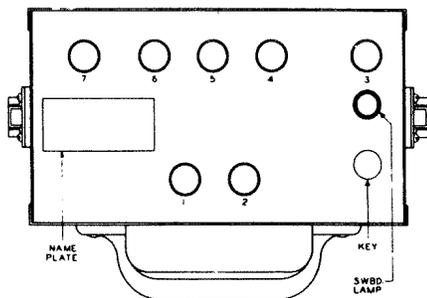

Fig. 1 - Face View of Set
1.06 The test set, illustrated in Fig. 1, is equipped with binding posts for making
box provided with a cover and carrying handle. Two test cords are provided for connecting the set to the apparatus under test. These can be stored under the cover. The set is 7-1/2" long, 5-1/4" wide and 5-3/8" high, including the cover, the hardware and the handle. Its total weight is about 7 pounds. A face view of the set without cover or test cords is shown in Fig. 1.